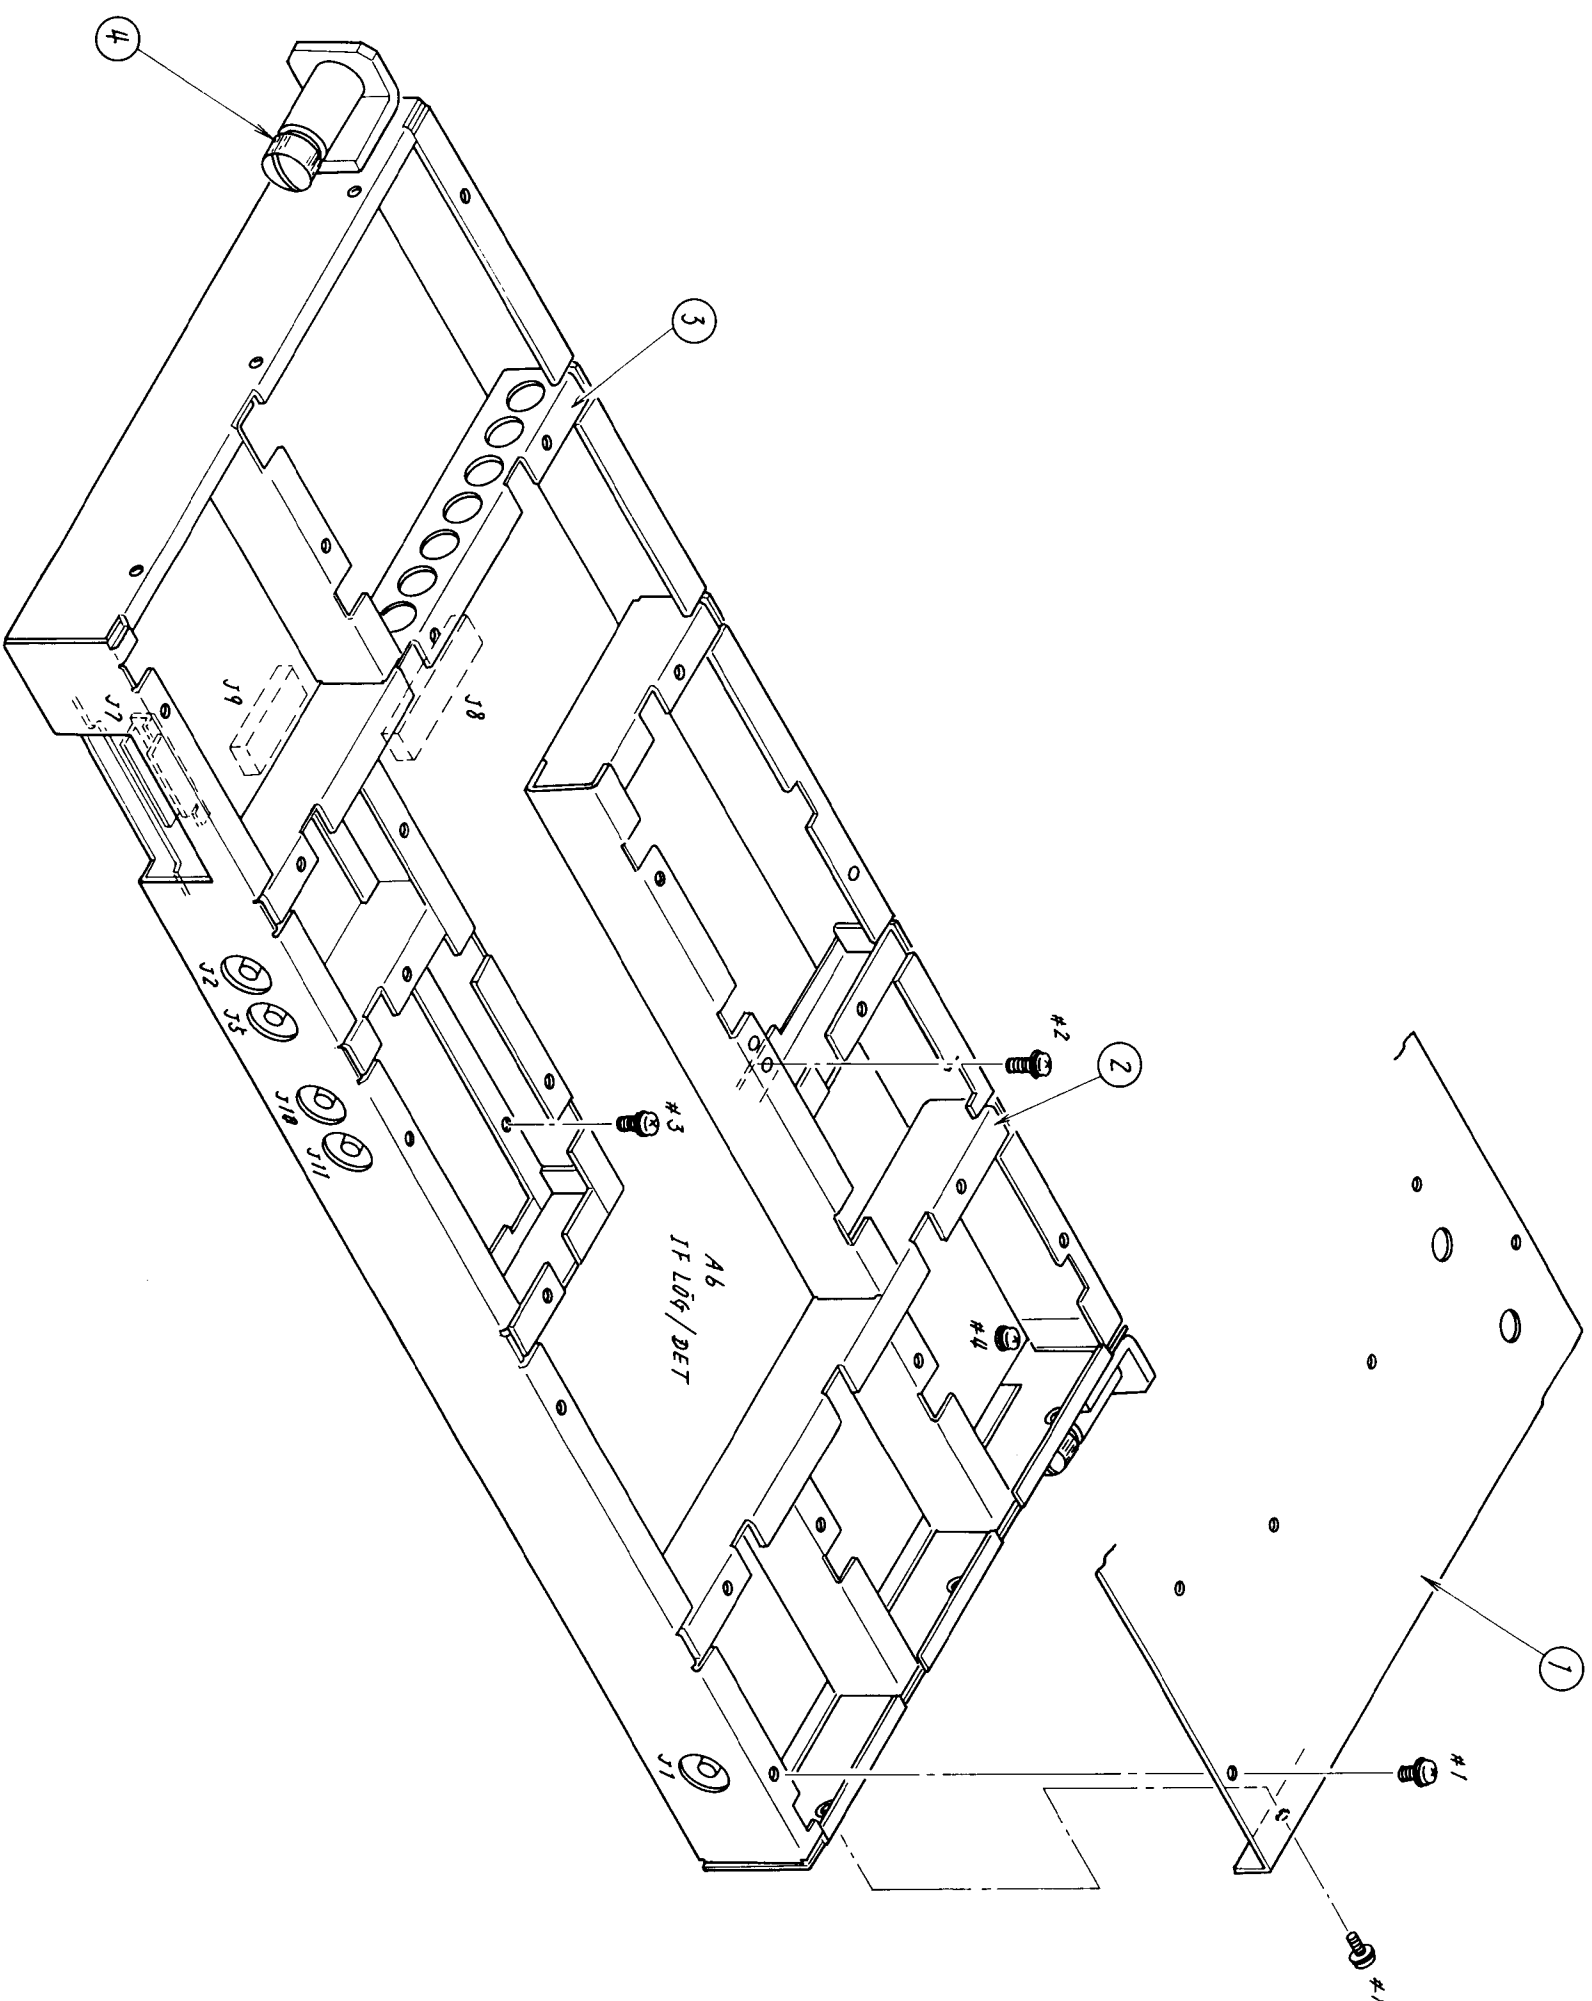

Fig. 5-18 A5&A6: SCAN&IF
5.10 Disassembling A5: SCAN/A6: IF LOG/DET (Figs. 5-18 and 5-19)
(1) Disassembling A6: IF LOG/DET (Fig. 5-18)